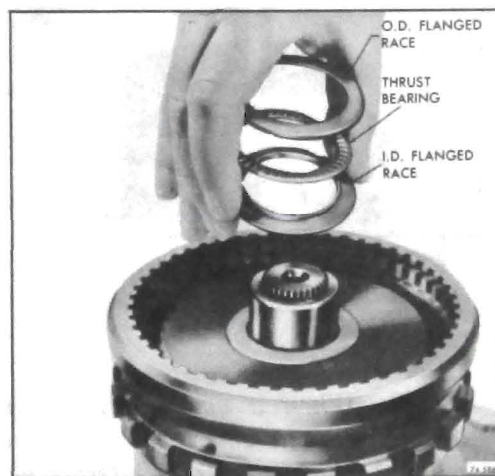

Figure 76-586
6. Install rear internal gear to output shaft thrust races and bearing as follows; and retain with petroleum jelly. See Figure 76-586.